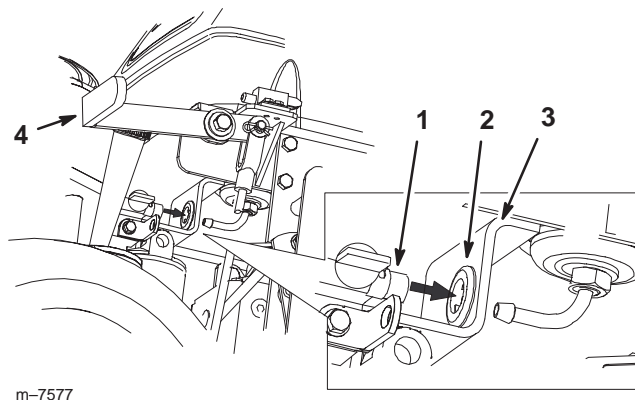

Figure 5
2. Push the fuel line through the grommet and hole in the hydraulic oil filter bracket (Fig. 5).